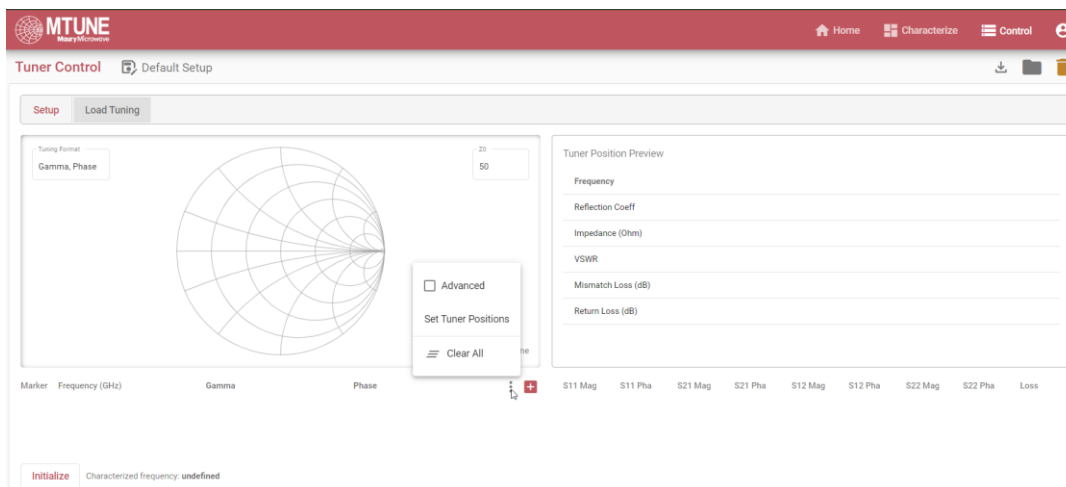

Figure 4. Set Tuner Positions
- Click on the 3 vertical dots next to the “+” sign in the middle of the page. Select “Set Tuner Positions” (see Figure 4).